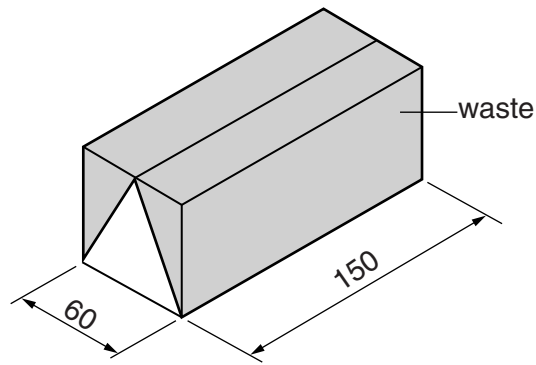

Fig. 13
- (d) Fig. 13 shows the triangular shape **A** marked out on a length of beech.